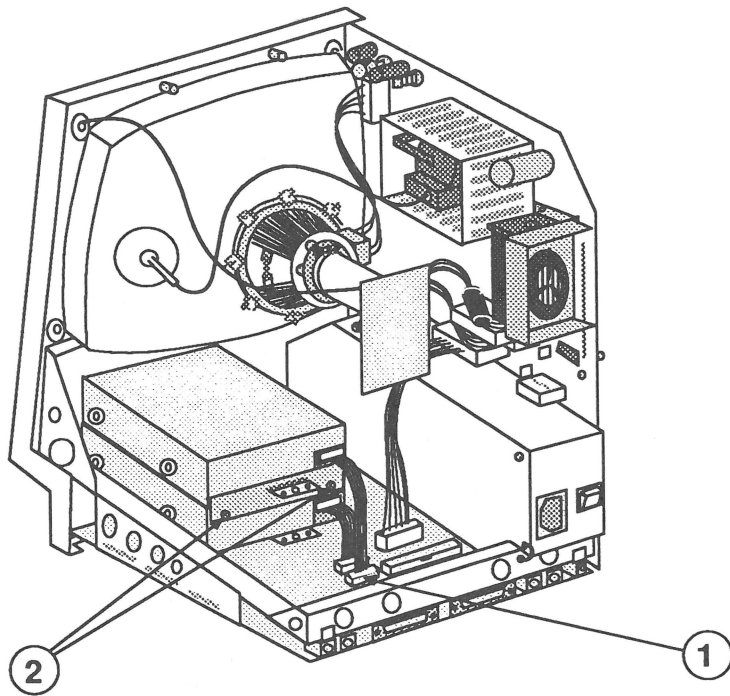

FIGURE 31
4. Disconnect the upper internal disk drive cable from connector J7 on the main logic board (Figure 31, #1).
5. Remove the two screws (Figure 31, #2) from the metal bracket that holds the two drive housings together. Lift off the metal bracket.